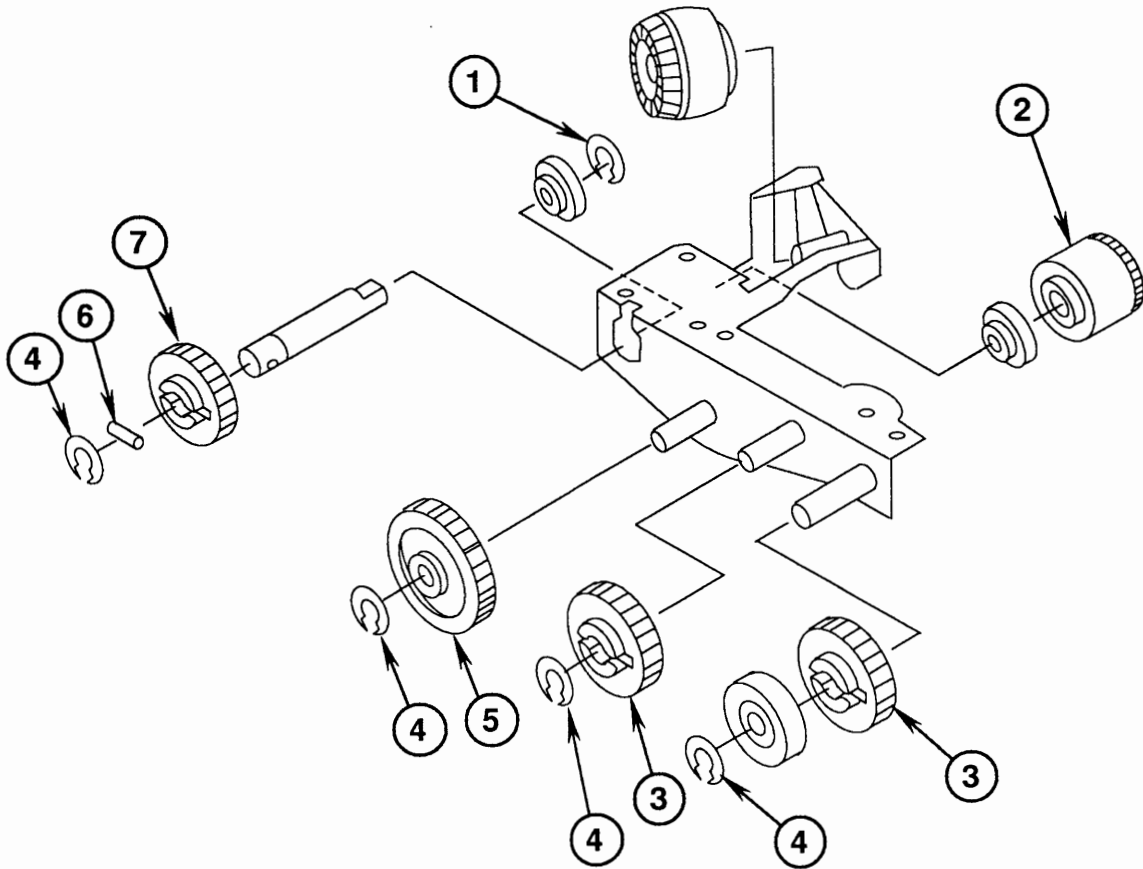

FIGURE 1
- 6.9 Manual Feed Assembly (Figure 1)
□ LASERWRITER – MANUAL FEED ASSEMBLY (Figure 1)